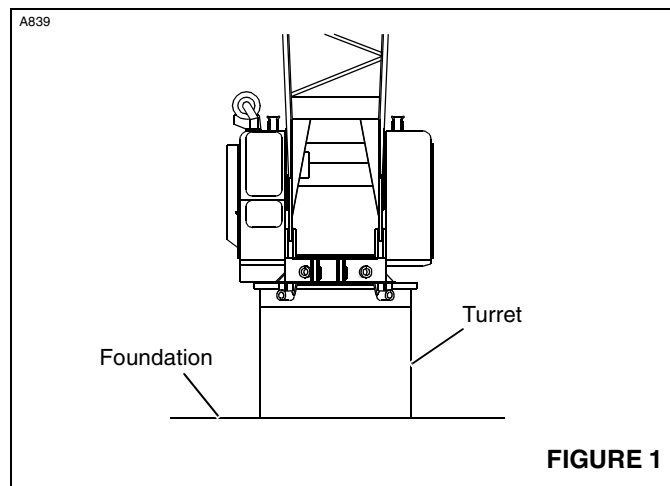

FIGURE 1
1. Crane upperworks mounted on a turret (or tub) which is securely fastened to foundation (Figure 1).